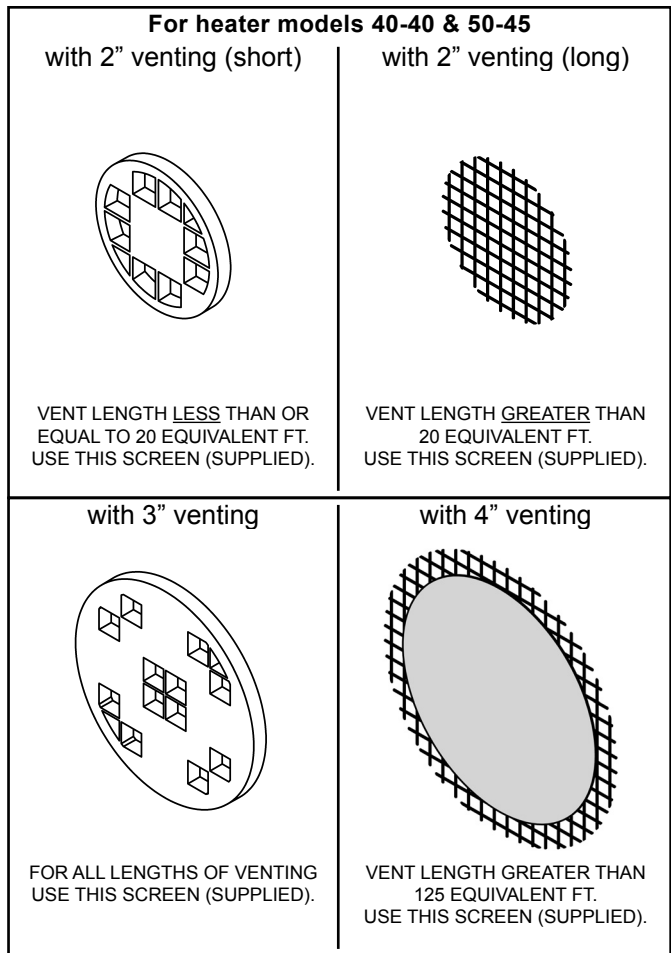
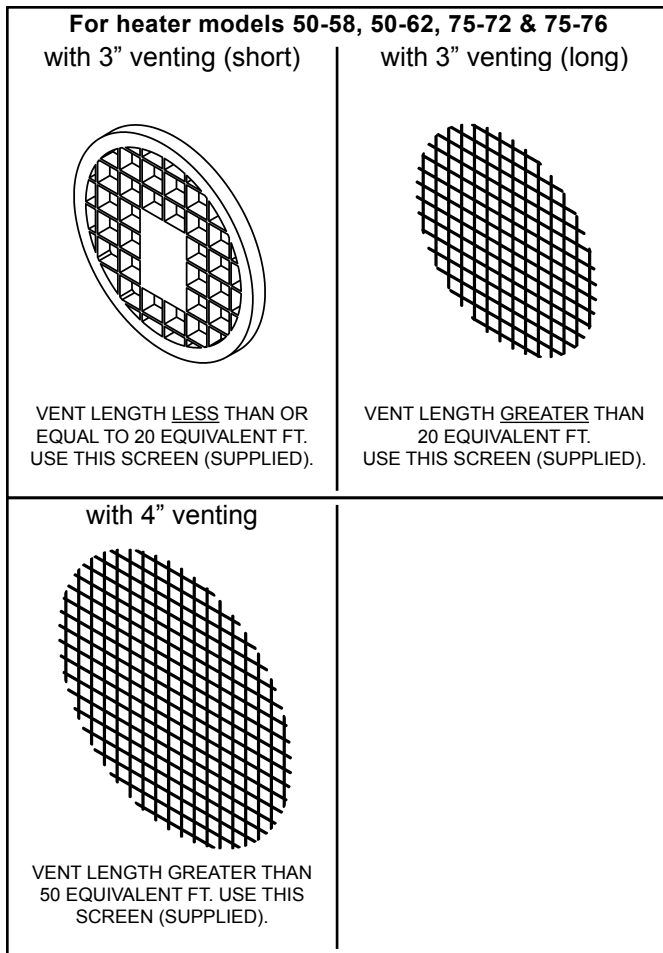

Figure 36.
Figure 37.
* see Figure 36 and Figure 37
Use the appropriate vent termination screen as shown in Figure 36 & Figure 37. Install the vent termination screen in both the air intake pipe and the exhaust pipe.
This water heater includes one (1) pair of more restrictive vent screens and one (1) pair of less restrictive vent screens (see Figure 36 & Figure 37). For safety and optimum efficiency performance, ensure the correct vent screen is installed for the vent length in your installation. A vent screen is required to keep foreign objects, rodents and small birds from entering the venting system. These screens have been sized to ensure maximum energy efficiency of the vent system based on the “equivalent length” of the vent piping. **CHOOSE ONLY the ONE SCREEN THAT MATCHES YOUR VENTING CONFIGURATION** (see Figure 36 & Figure 37). The vent screen **MUST** be installed for proper operation of the water heater. How to determine the “equivalent length” is shown in Table 4.
- Supplied with this heater are several vent screens (see Figure 36 & Figure 37).